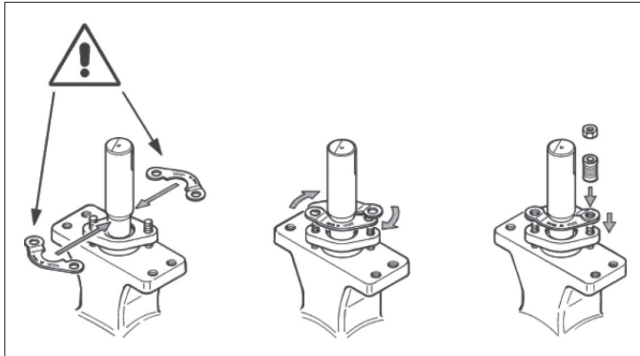

Fig. 25 Mounting the retaining plates
- Unfasten the nuts (494) and remove the disc spring kits (495), the retaining plates (476) and the gland (450).
- Remove old packing rings (451). Do not damage the surfaces of the packing ring counterbore and shaft. It is not necessary to change the anti-extrusion ring (452).
- Mount the retaining plates with the text UPSIDE on top (see Figure 25).